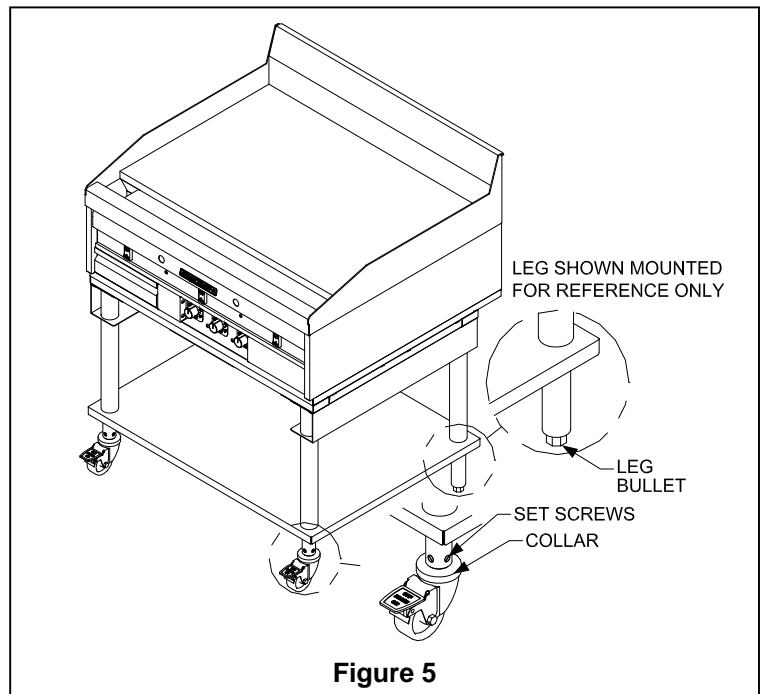

Figure 5
2. **Legs-** using a wrench, or pliers turn the leg bullet, See Figure 5, CCW to raise the height of the equipment stand. There is 1/2" (13mm) to 3/4" (19mm) of adjustment.
Casters- Using a Flat Head screwdriver, loosen the set screws of the caster to be leveled, See Figure 5. Turn the collar of the caster CCW to raise the height of the equipment stand. There is 3/4" (19mm) of adjustment.